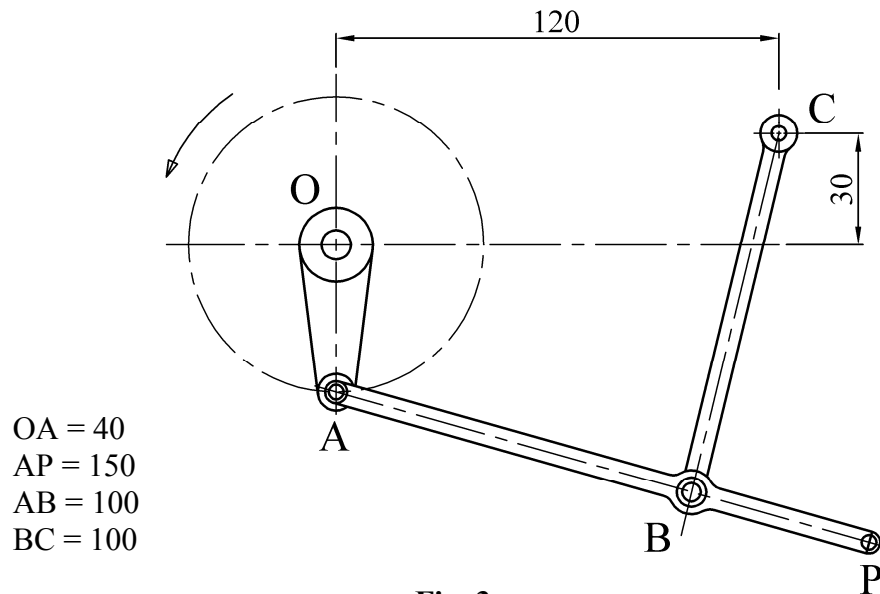

Fig. 3
- (b) Fig. 3 shows a link mechanism. Crank OA rotates in an anti-clockwise direction about the fixed point O. A and B are pin joints. Crank BC pivots about the fixed point C.